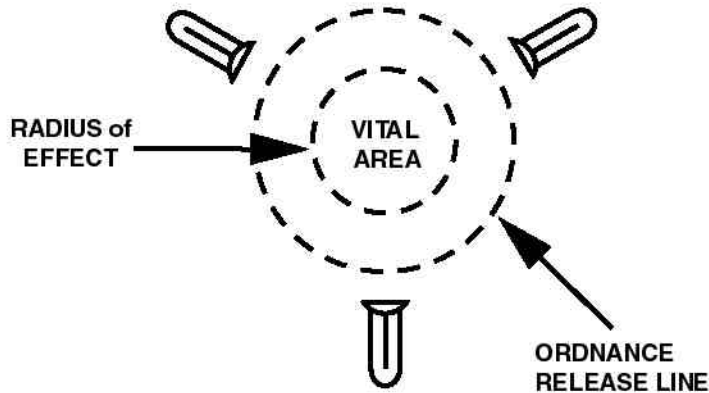

Figure 3-6. LAAD Early Engagement.
- 1 **Early Engagement.** LAAD teams should be positioned far enough out from the asset or unit being defended to permit the engagement of enemy aircraft before ordnance release (see fig. 3-6). The enemy's ordnance release line (ORL) will vary with the type of aircraft and ordnance employed. For planning purposes, 1.5 kilometers is the minimum ORL figure to use for low-altitude, pop-up attacks. In some cases, ordnance may be released in excess of 20 kilometers from the target. When developing air defense plans, actual threat tactics, flight profiles, and ordnance capabilities must be considered. Using unit internal assets to analyze threat capabilities will aid in determining employment.